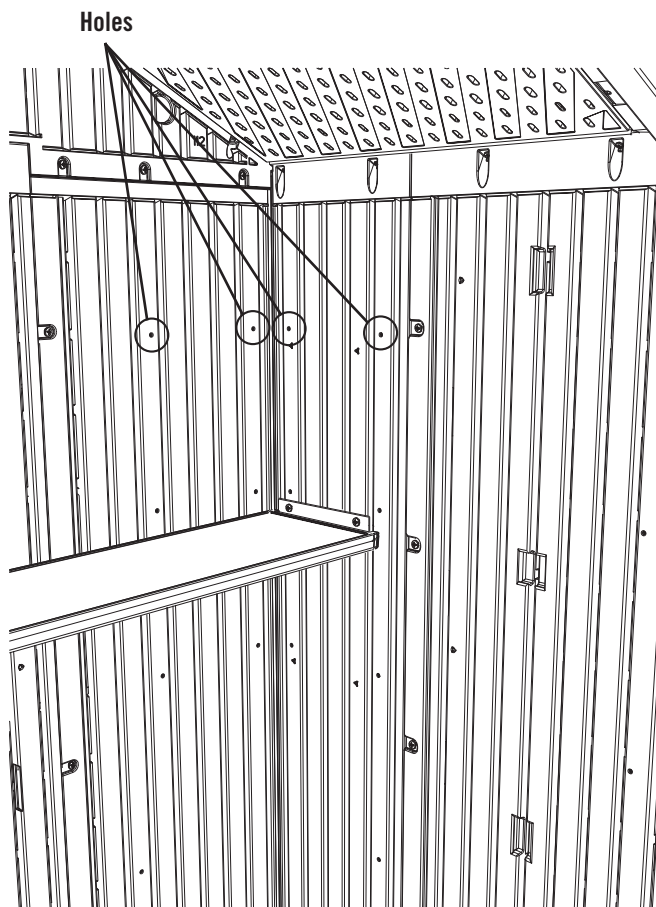

Fig. 1
Note the top set of pre-made holes in the corners of the shed (Fig. 1). Any of these holes may be used for a **Corner Shelf (AFZ)**. Fold up edges of a Corner Shelf. Line-up the holes in the Corner Shelf with the top set of pre-made holes in any corner Wall Panel (Fig. 2). Secure with four (4) **1/4" x 5/8" Phillips Pan-Head Screws (ADZ)**. Repeat this step for the second Corner Shelf.